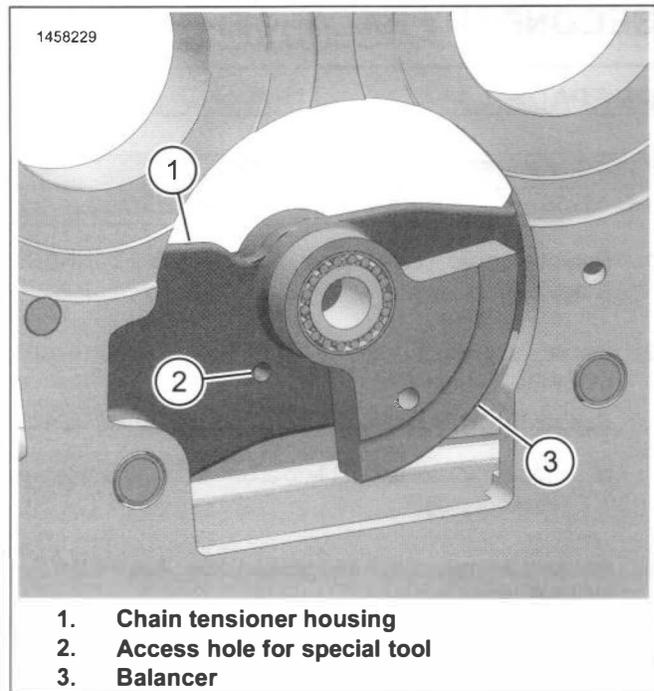
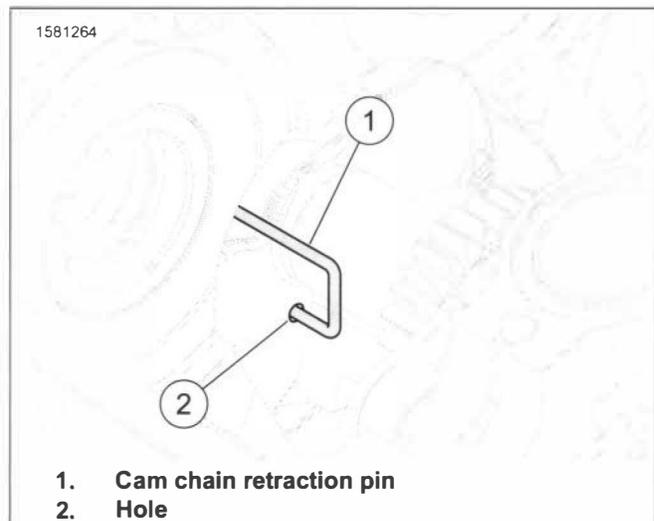

Figure 4-35. Special Tool Access Hole
Figure 4-36. Cam Chain Retraction Pin
- See Figure 4-35 and Figure 4-36. Install cam chain retraction pin.
1. See Figure 4-36. Install cam chain retraction pin.